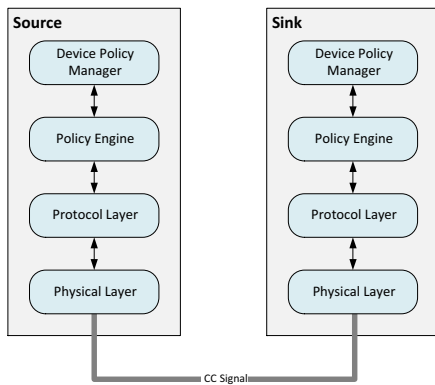

Figure 33. USB PD Communications Stack
USB Power Delivery (PD) provides a way for a Source and Sink device to negotiate output power settings, allowing for increased power delivery up to 100W. USB PD uses the CC signal that is passed through the USB cable to provide the link between a Source device and a Sink device. In order to communicate properly over the CC signal, all USB PD-capable devices include four major communication components, the Physical Layer, Protocol Layer, Policy Engine and Device Policy Manager as shown in Figure 33.